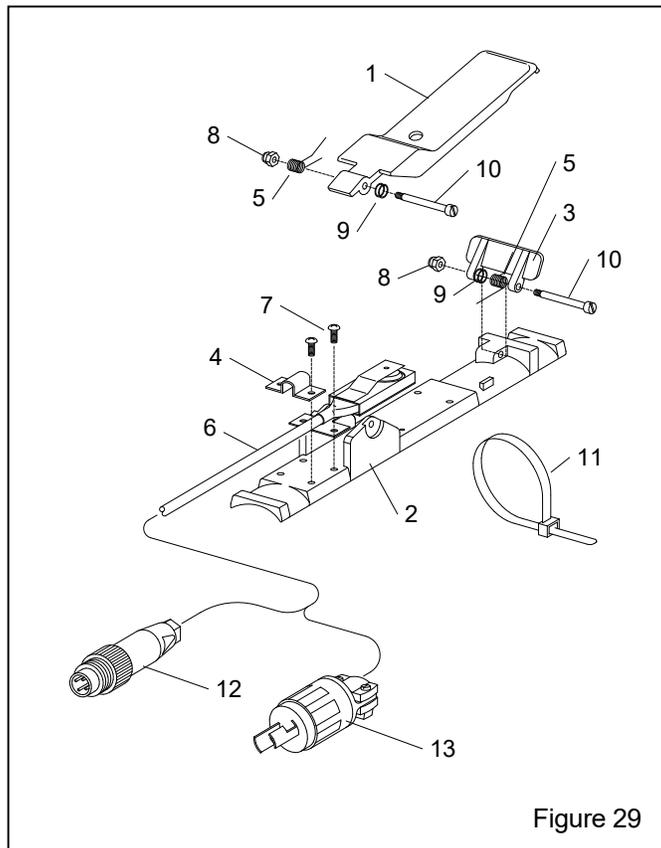

Figure 29
8.5 RLX Electric Control Handle – Figure 29